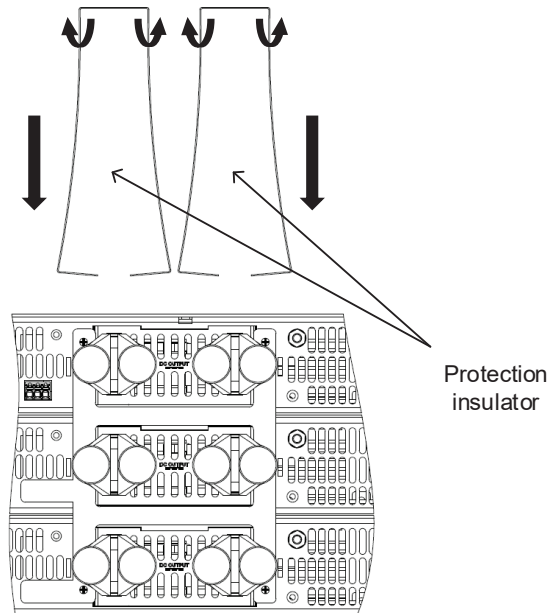

Figure 4-63: Assembly of 10V-40V Wires Protection Insulator
- Assemble the protection insulators prior assembling the Bus bar cover. The protection insulators are flexible, open in its bottom side. Open the insulators and cover the bus bars by sliding over the bus bars from top to bottom, as shown in Figure 4-63 (15kW, 10V model is shown, it applies to 10kW-15kW, 10V-40V models as well).